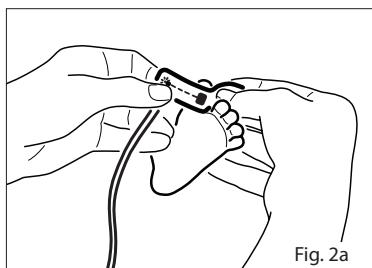

Fig. 2a
2. Refer to Fig. 2a. Direct the sensor cable so that it runs along the top of the foot. Position the detector on the fleshy pad of the great toe. Alternatively, the toe next to the great toe, or the thumb can be used (not shown).